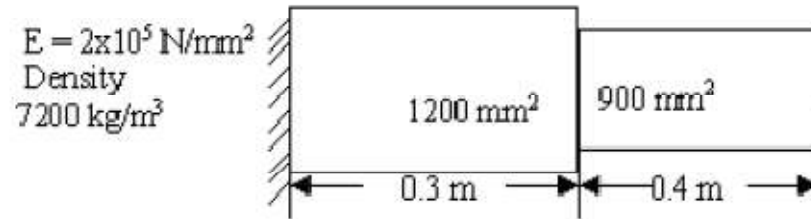

Fig.2
5. Consider the axial vibrations of a steel bar shown in the Fig.2: